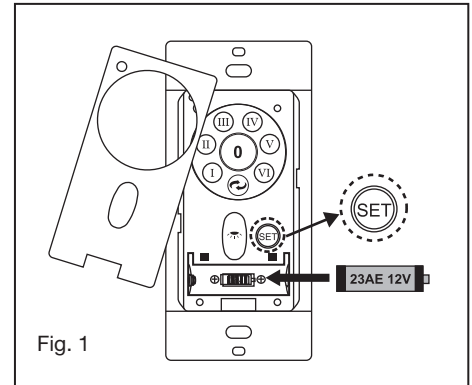

Fig. 1
1. Insert the receiver into the ceiling mounting bracket with the flat side of the receiver facing the ceiling. (Fig. 1) For best performance, make sure the Black Antenna, on the end of the receiver, remains extended and not tangled with any of the electrical wires.
- 1 Place fiber washer on screw. Insert this assembly through the blade and start the screw into the blade arm. Repeat this procedure without tightening the screw until all 3 screws have been started into the blade arm (Fig. 1).
- 2 Place the key holes on the mounting plate over the 2 screws previously loosened from the mounting hub, turn mounting plate until it locks in place at the narrow section of the key holes. Secure by tightening the 2 screws previously loosened and the one previously removed. (Figure 1)
- 1 Remove the existing wall plate and the old switch from the wall outlet box. (Fig. 1)
Follow the below steps to use the set button. (Fig. 1)